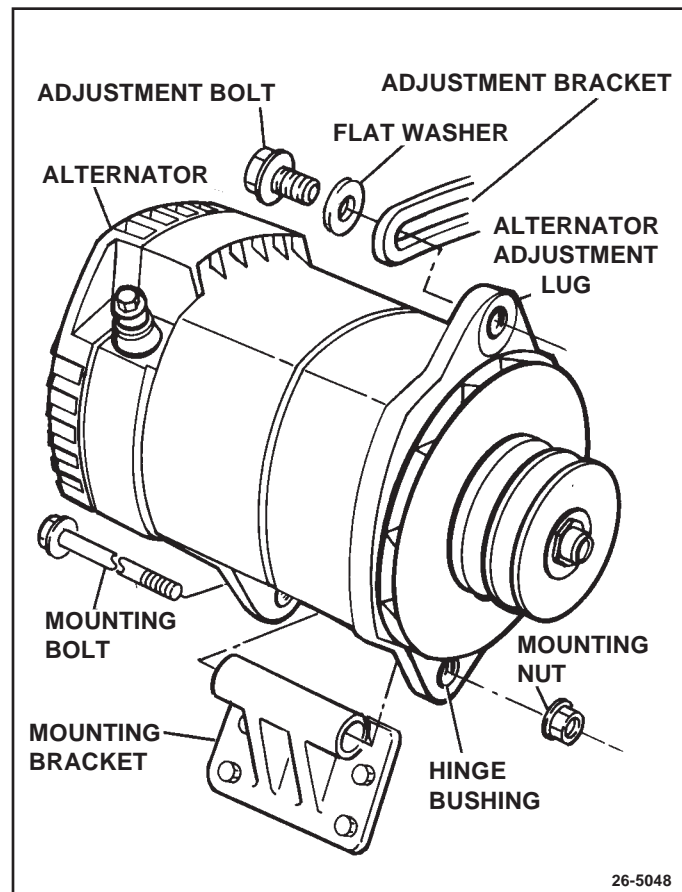
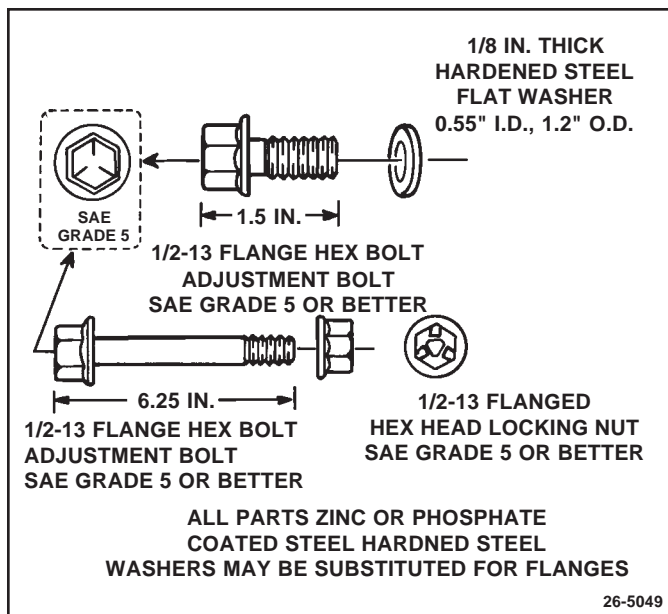

Figure 49. Installing Alternator on Engine
Figure 50. Alternator Mounting Bolts
3. Alternator double mounting lugs to mounting bracket on engine. (See Fig. 49) Adjust hinge bushing in mounting lug by pressing endways until it just clears the spool on the mounting bracket. Install flanged mounting bolt and flanged mounting bolt nut. If bolt and/or nut are not flanged, 1/8" thick hardened steel washers (part no. 1967343) must be substituted for flanges. (See Fig. 50)
4. Alternator adjustment lug to adjustment bracket on engine, with 1/8" thick hardened steel washer (part no. 1967343) and flanged adjustment bolt. (See Fig. 49) Finger tighten.